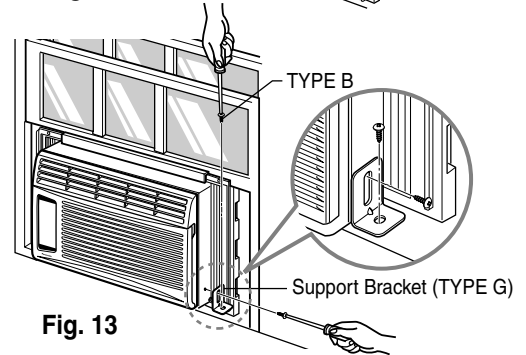

Fig. 13
- b. Fasten the support bracket (TYPE G) using a removed screw. Attach the support bracket (TYPE G) in the inner window sill with a screw (TYPE B), as shown Fig. 13.